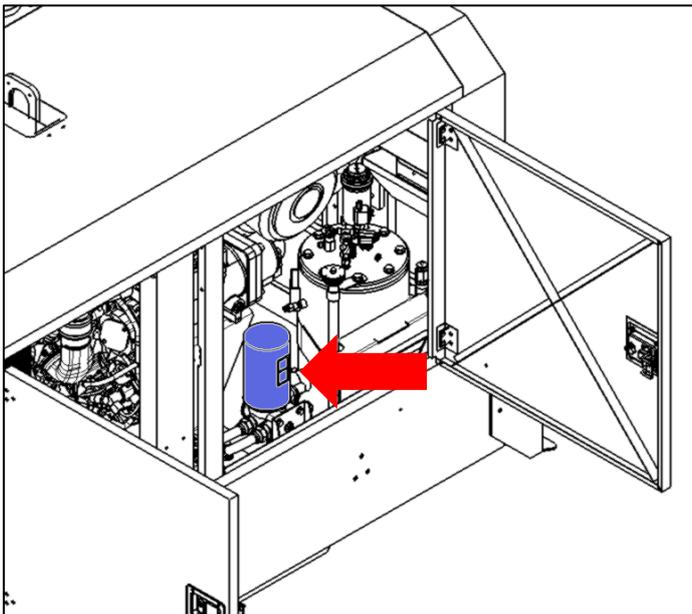

Figure 13.4.11-1 Compressor oil filter
- 2) Use a chain wrench to unscrew the filter to be replaced (Figure 13.4.11-1);